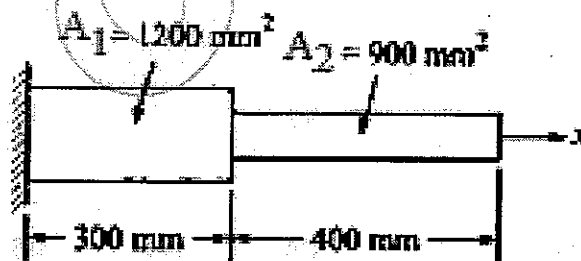

Figure: 4
8. Consider axial vibration of the steel bar as shown in figure 4. Develop the global stiffness and mass matrix. Determine the natural frequency and mode shapes.